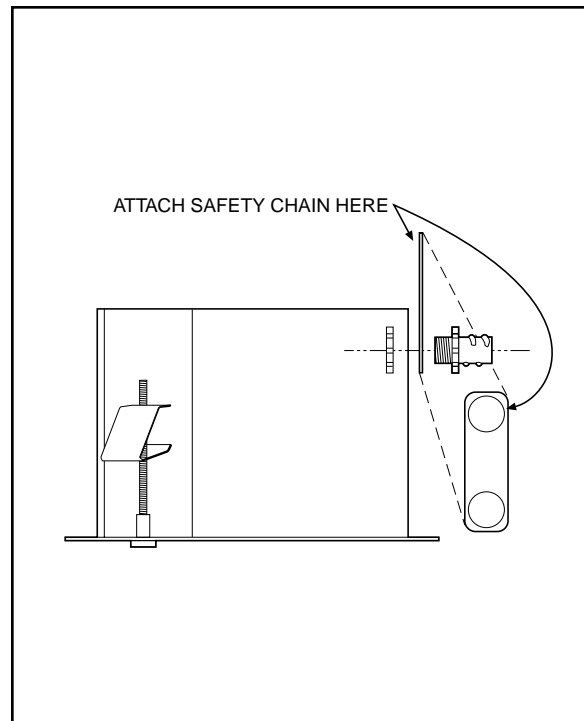

Figure 5. Conduit Fitting Installation
5. Remove the conduit fitting, lock nut, and safety chain bracket from the parts bag and attach them to the back box as shown in Figure 5.
6. Remove the conduit fitting, lock nut, and safety chain bracket from the parts bag and attach them to the back box as shown in Figure 5.
2. Install a safety chain or cable (not supplied) that will support up to 16 pounds (7.3 kg). Fasten one end to a support structure in the ceiling. Fasten the other end to the safety chain bracket (refer to Figure 5) to prevent the back box from falling.